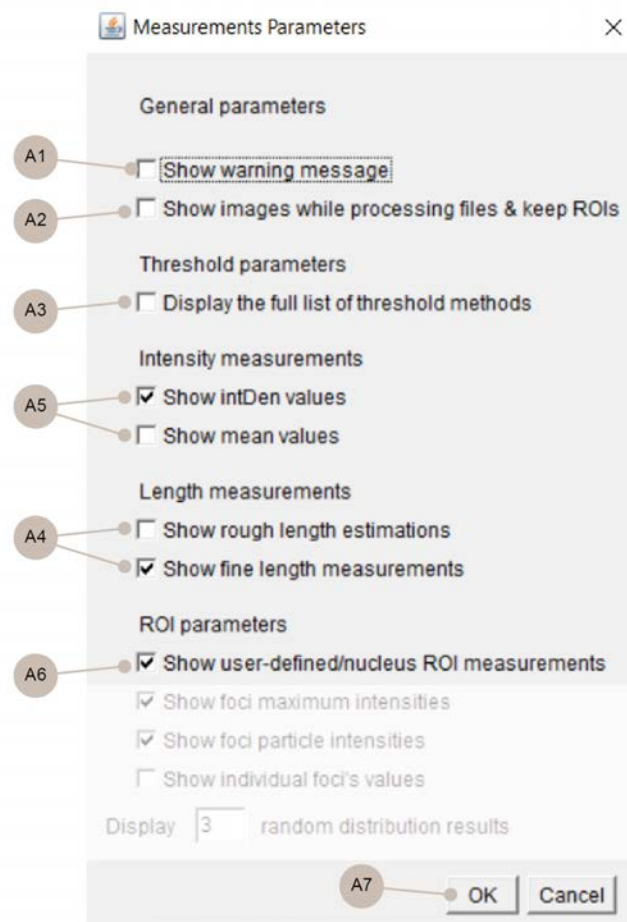

Figure 5.5. The (general) parameters window.
**OPTIONAL STEP A.** Set the measurements parameters options. Before using the "Measure synapse length" tool, you must first set the measurement parameters by clicking on the Set measurements parameters button. This will bring up the Parameters menu (figure 5.5).